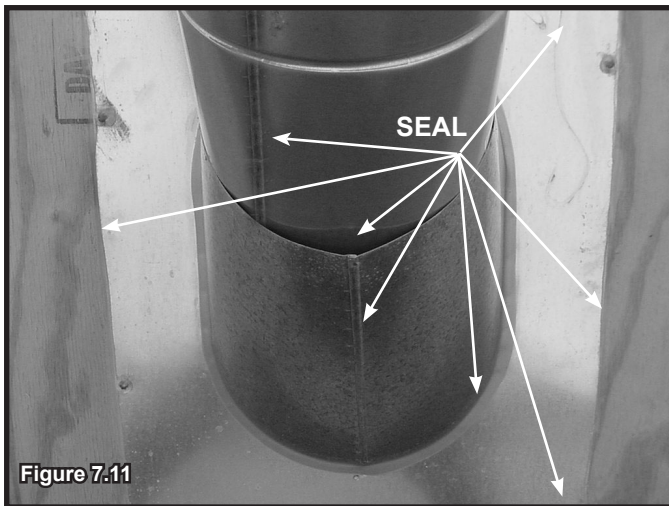

Figure 7.11
- Seal the perimeter of the flashing where it contacts the roof surface. See Figure 7.11.